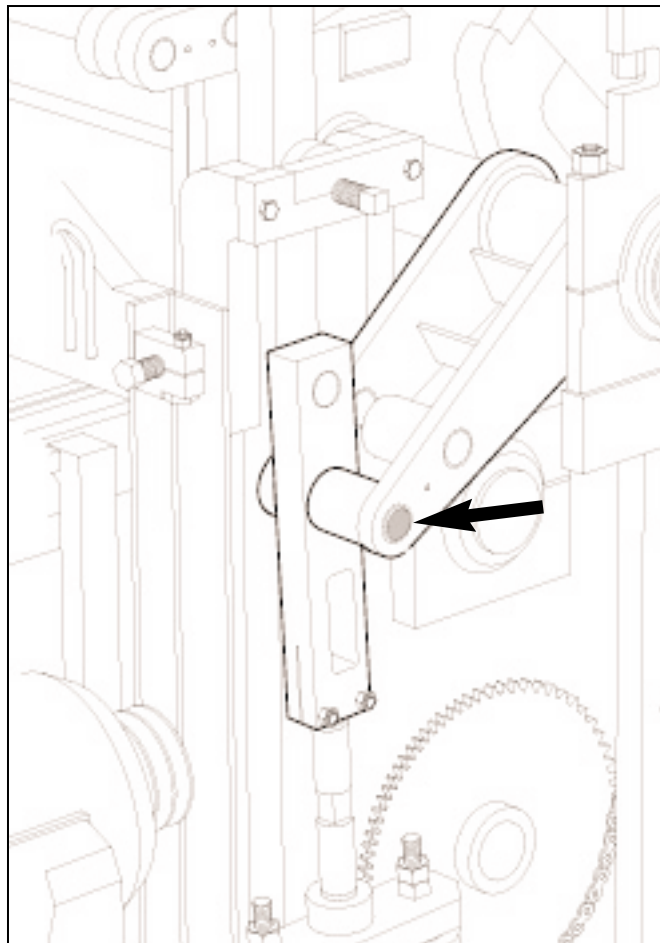

Figure 4.22 POSITIONING PINS IN OUTER HOLES.
- 4.2.13 Position the pins in the outer holes of the pallet receiver shaft arms (see figure 4.22).